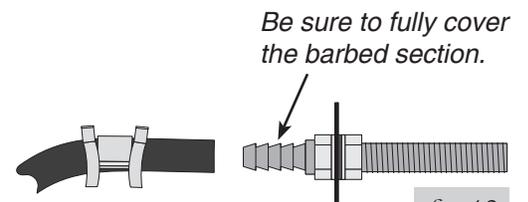

fig. 12
10. Slide the air line clamp over the air line. Push the air line onto the fitting covering all barbs. Using pliers, slide the air line clamp forward until it fully covers the barbed section (fig. 12).
9. Slide a clamp onto the air line and push the air line over the fitting, covering all the barbs. With pliers slide the air line clamp forward until it fully covers the barbed section (fig. 12).